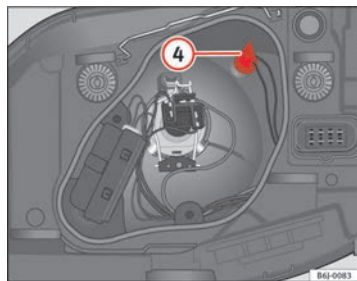

Fig. 141 Side lights
- Remove the bulb holder ④ ⇒ fig. 141 outwards.